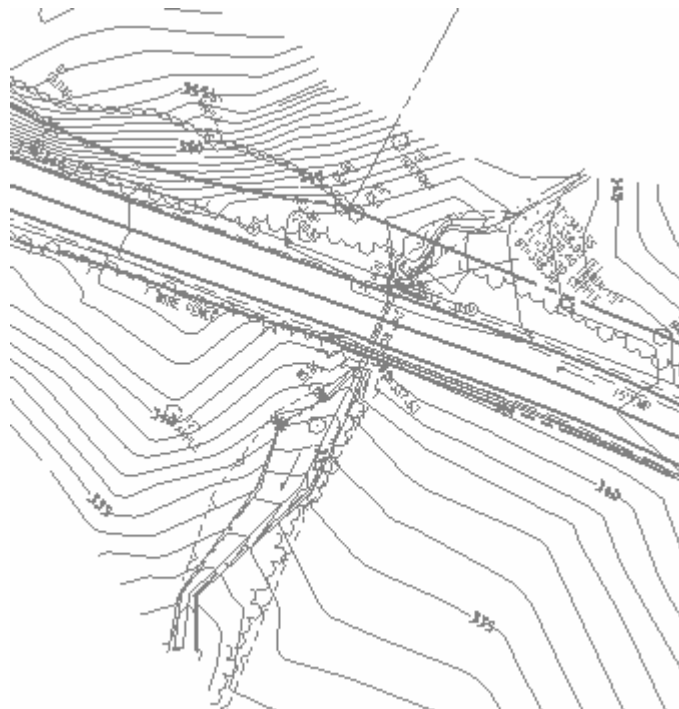

Figure 2-6 MicroStation View of InRoads Generated Contours
K. In the View Contours Box for Surface: select existing. Then click the **Apply** button. Notice the contours within the ground file (Figure 2-6).